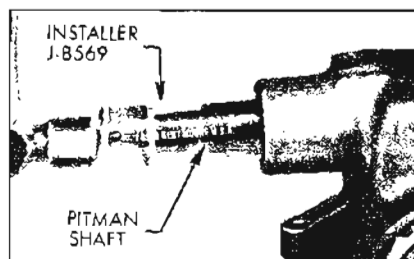

Figure 8-11—Installing Pitman Shaft Seal
8. To protect pitman shaft seal from damage, cover shaft splines with masking tape. Slide new seal into place and seat against shoulder in housing using Installer J-8569. See Figure 8-11.